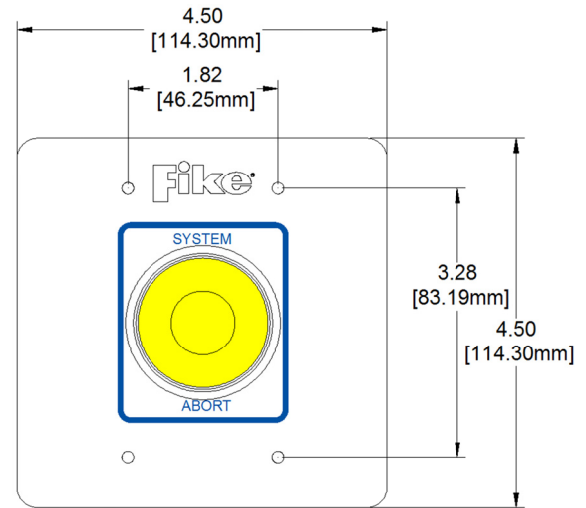

Figure 1 Switch Front View (inches/mm)
1. Remove protective plastic film from stainless steel face plate and apply the adhesive label, orientated as shown in Figure 1.